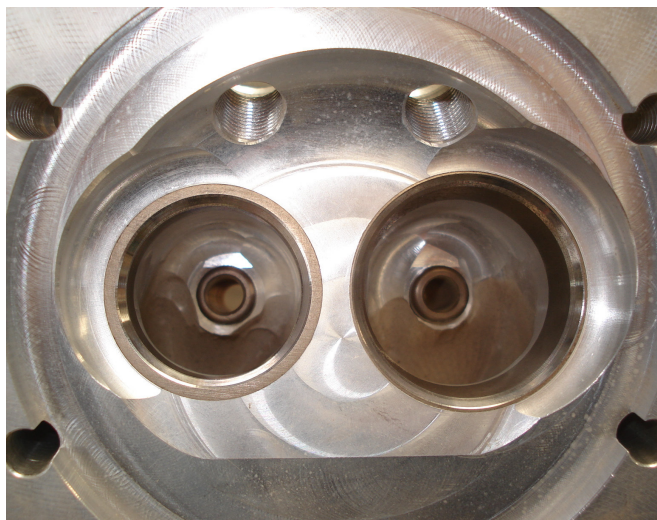

Figure 1 – Early “High Octane” Combustion Chamber
- The following engines were manufactured with combustion chamber as shown in Figure 1.